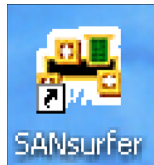

Figure 51 **SANsurfer icon**
1. Double-click the SANsurfer icon, as shown in Figure 51, on your desktop (if the icon was created during installation).